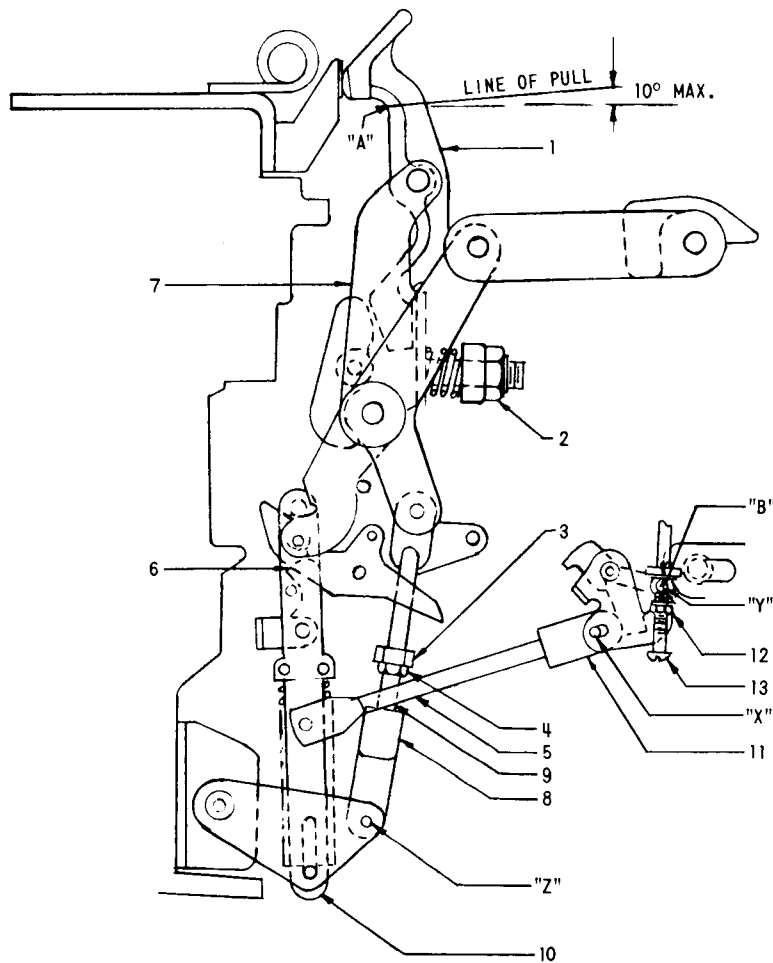

Fig. 1—Field-Discharge Contact
The field-discharge pole assembly, as shown in Fig. 1, consists of an arc-chute assembly, movable-contact assembly, support bracket, stationary-contact assembly, opening and closing springs, operating linkages, and the necessary assembly hardware. The assembly is constructed and adjusted so that the field-discharge contacts and the contacts of the circuit breaker "overlap" as described in the following paragraphs.
TRIP TRAVEL (See Fig. 1)
FIELD-DISCHARGE ASSEMBLY (See Fig. 1)
1. Back off trip rod (1) until it will not strike the trip pin ("B", Fig. 1) with the armature pushed up as far as the travel will allow.
3. Push up armature (6) at "A" as far as the armature travel will allow.
4. Hold the armature as positioned in Step 3 and turn trip rod (1) down until the breaker just trips.
5. Release armature (6) and turn trip rod (1) down an additional two turns.